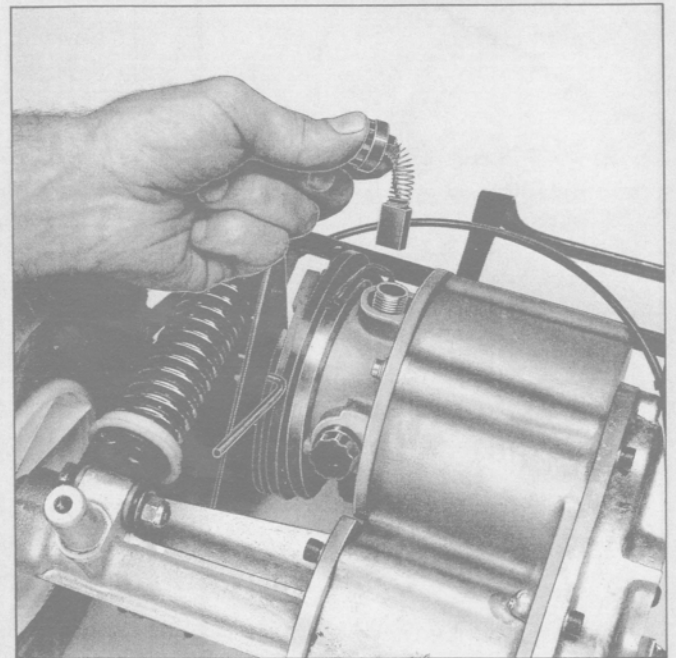

Fig. 18
- 8) Remove and inspect brushes taking care to replace original brushes into their former housing (Figure 18).